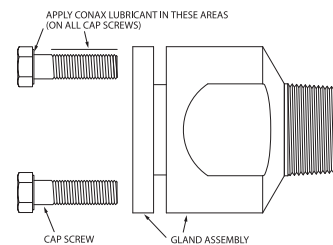

Figure 3
1. Apply a small amount of lubricant, tear drop equivalent, in two to three places, equally spaced, to the underside of the hex cap screw on each of the six (6) hex cap screws. Do not allow the lubricant to directly contact the sealant or the elements you are sealing. Refer to Figure 3.
2. Apply a single line of lubricant to the full thread length on each of the six (6) hex head screws. Refer to Figure 3.